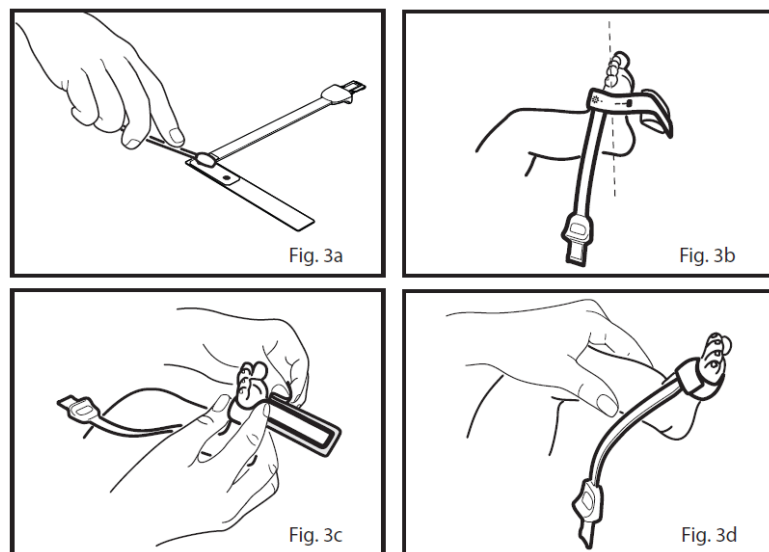

Fig. 22 RD SET Sensor Application for Neonates and Preterms
- 2 See Fig. 3a in Fig. 22: For fragile skin, the stickiness of the medical grade adhesive can be diminished or eliminated by daubing the adhesive areas with a cotton ball or gauze.
- 3 See Fig. 3b in Fig. 22: Direct the sensor cable toward the ankle (or wrist).
- 5 See Fig. 3c in Fig. 22: Wrap the adhesive/foam wrap around the lateral aspect of the foot (or hand) and ensure that the emitter window (red star) aligns directly opposite the detector. Be careful to maintain proper alignment of the detector and emitter windows while attaching adhesive/foam wrap to secure the sensor.
- 6 See Fig. 3d in Fig. 22: Verify correct positioning.